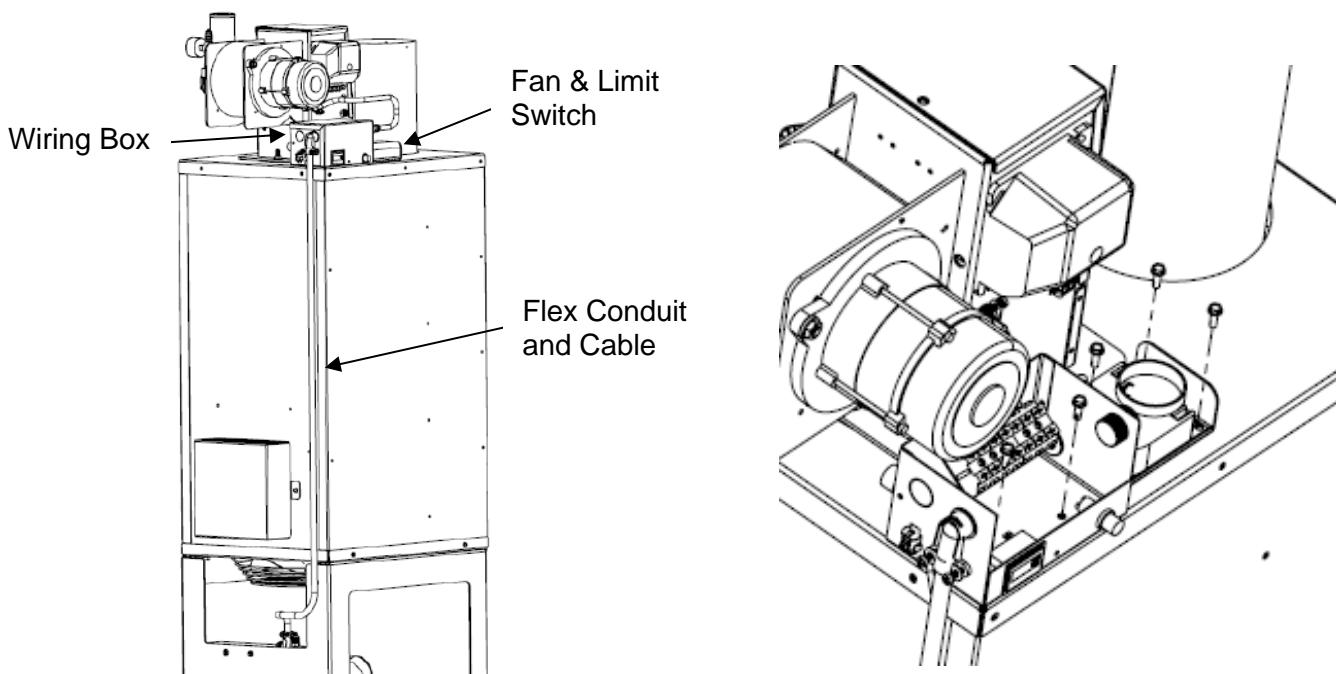

Figure 2.3 – Installing the Wiring Harness
5. Unpackage the wiring harness assembly from the box on the tank and route the flex conduit and cable up the back of the cabinet. Locate the wiring box and Fan & Limit Switch on top of the cabinet as shown in Figure 2.3 on the following page. NOTE: The shaft on the Fan & Limit Switch slides into the hole in the top of the cabinet.